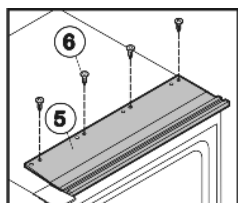

Fig. 44
- Screw on upper installation contour Fig. 44 (5) through the pre-cut holes using four screws Fig. 44 (6).